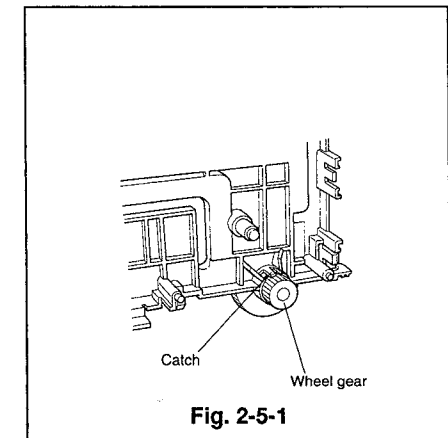

Fig. 2-5-1
- 3 Unfasten the catch shown in Fig. 2-5-1 to remove the wheel gear.
- 1 Install the wheel gear in the position shown in Fig. 2-5-1, from the inside of the cassette housing.